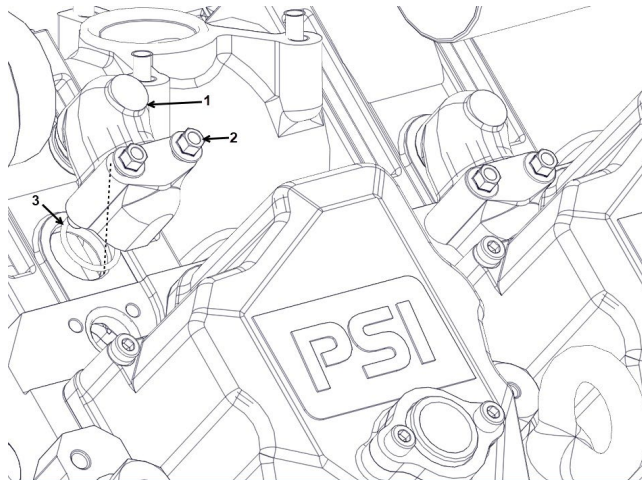

Figure 40.
8. Remove the two bolts (Figure 40, Item 2) from the exhaust pipe (Figure 40, Item 1) and remove the exhaust pipe (Figure 40, Item 1).
9. Remove the O-ring (Figure 40, Item 3) located directly on top of each cylinder head.
9. Place the exhaust pipe (Figure 40, Item 1) onto the cylinder head.
10. Insert and torque down the two bolts (Figure 40, Item 2).